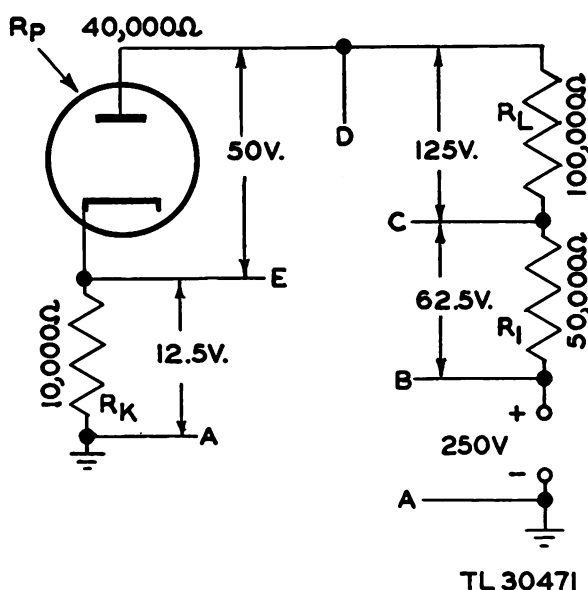

Figure 46. Voltage measurements functional schematic.
(3) Figure 46 shows another illustration of a plate-cathode circuit (series circuit). The total resistance is 200,000 ohms, and the applied voltage is 250 volts. The current through this circuit is 0.00125 amperes. This circuit can be solved for voltage drops by the same procedure as was used in the previous examples, with only the number and values of the resistance differing.
d. Bias Circuits. (1) The normal operation of the most vacuum tube circuits requires the application of a steady d-c voltage of proper value on the grid element of the tube. This voltage is called a bias voltage, or grid bias voltage, and is always considered in